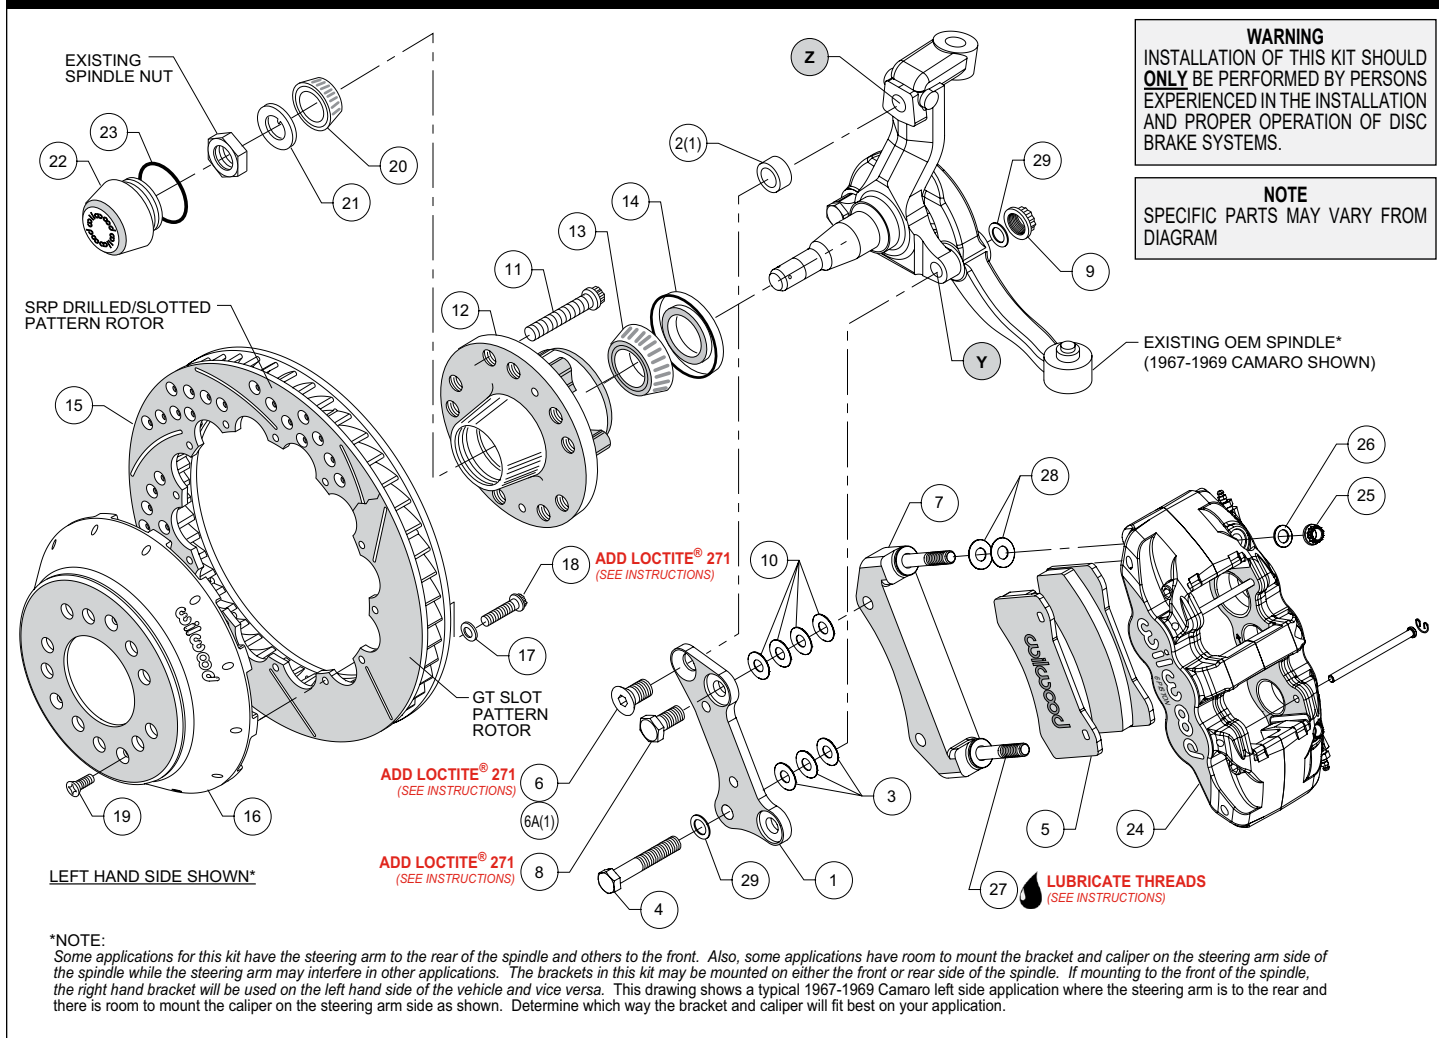
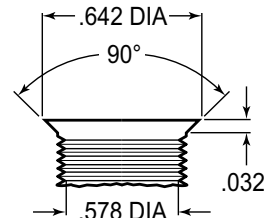
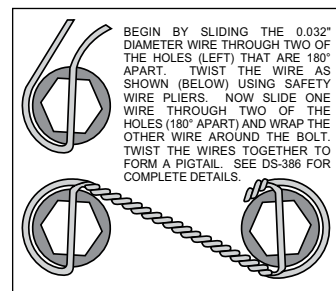

Figure 1. Typical Installation Configuration
Figure 3. Drill and Tap Detail
Figure 4. Safety Wire Diagram
NOTE: Numbers in parenthesis refer to the parts list and Figure 1 on the preceding pages.
NOTE: Some applications for this kit have the steering arm to the rear of the spindle and others to the front. Also, some applications have room to mount the bracket and caliper on the steering arm side of the spindle while the steering arm may interfere in other applications. The brackets in this kit may be mounted on either the front or rear side of the spindle. If mounting to the front of the spindle, the right hand bracket will be used on the left hand side of the vehicle and vice versa. Figure 1 shows a typical 1967-1969 Camaro left side application where the steering arm is to the rear and there is room to mount the caliper on the steering arm side as shown. Determine which way the bracket and caliper will fit best on your application.
NOTE: Some spindles in this year range may require the following modifications (reference Figure 1 and Figure 3): Top anchor pin hole (Z) must be drilled and tapped to the dimensions as outlined in Figure 3. The lower bolt hole (Y) in the spindle used to mount the new caliper bracket, and the mating steering arm hole, must be enlarged to .50" by drilling. It is recommended these modifications be performed by a qualified machinist.
Install wheel studs (11) into the hub (12), Figure 1 and Photo 1. Torque to 77 ft-lb. **NOTE:** There are two five lug patterns in the hub (5 x 4.50 and 5 x 4.75). Ensure the correct hub stud pattern is being used to fit the wheel application.
Orient the rotor (15) and the hat (16) as shown in Figure 1 and Photo 3. Attach rotor to hat using bolts (18) and washers (17). Apply red *Loctite*® 271 to the bolt threads and torque to 155 in-lb using a criss-cross pattern. For an added measure of security, the bolts may be safety wired using standard 0.032 inch diameter stainless steel safety wire as shown in Figure 4. Please refer to Wilwood's data sheet DS-386 (available at www.wilwood.com/Pdf/DataSheets/ds386.pdf) for complete safety wire installation instructions.
•**Disc Brake Spindle Application Only:** Follow the instructions below, but instead use bolt (6A), and spacer (2) in the upper bolt hole location, Figure 1.
•Orient the flat bracket (1) as shown in Figure 1 and Photo 4, and install using bottom bolt (4), washers (29), and nut (9), Figure 1. Initially place three .032" thick shims (3) between the bracket and spindle. Install the upper bolt (6 or 6A), Photo 5. Temporarily tighten bolts. **NOTE:** The bracket must fit squarely against the mounting surfaces on the spindle. Inspect for interference from casting irregularities, machining ridges, burrs, etc. Temporarily install the hub and hat/rotor assembly. Check that the bracket is aligned parallel to the rotor, Photo 6. If not, adjust by adding or subtracting shims (3) on the lower bolt between the bracket and spindle, Figure 1. Once the bracket alignment is correct, remove the upper bolt (6 or 6A), apply red *Loctite*® 271 to the bolt threads, and torque to 120 ft-lb. Torque the lower lock nut to 65 ft-lb.
•The radial mount caliper bracket (7) should initially be installed with clean dry threads on the mounting bolts. Orient bracket as shown in Figure 1, and install using bolts (8). Initially place four shims (10) on each bolt between the two brackets. Temporarily tighten the mounting bolts. Later, after the caliper alignment has been checked, the mount bolts will be secured using red *Loctite*® 271.
•Pack the small outer bearing cone (20) with high temperature disc brake bearing grease and install into hub (12). Final install the hub assembly onto the spindle. Secure using spindle washer (21), and OEM spindle nut, Photo 7. Adjust bearings per OEM specifications. Install new cotter pin (not included).
•Screw dust cap (22) into hub (12), Photo 8. Friction created by the o-ring (23) on the dust cap keeps it from unscrewing. **NOTE:** The O.D. of the existing OEM spindle washer may be larger than the I.D. of the dust cap not allowing it to seat against the hub face. Therefore, use the spindle washer (21) supplied with the kit instead of the OEM washer.
•Final install the hat/rotor (15 and 16) onto the hub (12) taking care to align the small countersunk holes in the hat with the small threaded holes in the hub. **NOTE:** The hat must fit flush against the hub face or excessive rotor run out may result. Install three flat head screws (19) through the small holes in the hat (16), Photo 9, and torque to 85 in-lb.
•**NOTE:** This kit contains distinct right and left hand calipers that must be mounted in a specific direction, as described below. Lubricate the caliper mounting studs (27) with lightweight oil. Initially place two .030" thick shims (28) on each stud between the caliper and the bracket, as shown in Figure 1 and Photo 10. Mount the caliper (24) onto the bracket (8) using lock nuts (25) and washers (26), Figure 1. Ensure that the caliper is mounted so the largest pistons are at the rotor exit end of the caliper, in relation to the direction of rotor rotation. Temporarily tighten the lock nuts and view the rotor through the top opening of the caliper. The rotor should be centered in the caliper, Photo 11. If not, adjust by adding or subtracting shims (10) between the flat bracket (1) and the radial mount bracket (8). Always use the same amount of shims on each of the two mounting bolts. Once the caliper alignment is correct, remove the caliper and then remove the radial mount bracket bolts one at a time, apply red *Loctite*® 271 to the threads, and torque to 77 ft-lb.
•Remove the two pad retaining pins from the caliper (24) by carefully popping out the pin retaining clips and sliding out the pins. Insert the brake pads (5) into the caliper from the bottom, Figure 1, Photo 12. With the friction material facing the rotor, secure the brake pads in place with the pad retaining pins and clips, Photo 13. Reinstall the caliper onto the caliper mounting bracket and temporarily tighten the lock nuts. Check that the top of the brake pad is flush with the outside diameter of the rotor, Photo 14. If not, adjust by adding or subtracting shims (28) between the caliper and the bracket. After the caliper pad height is set, torque the caliper lock nuts (25) to 47 ft-lb.